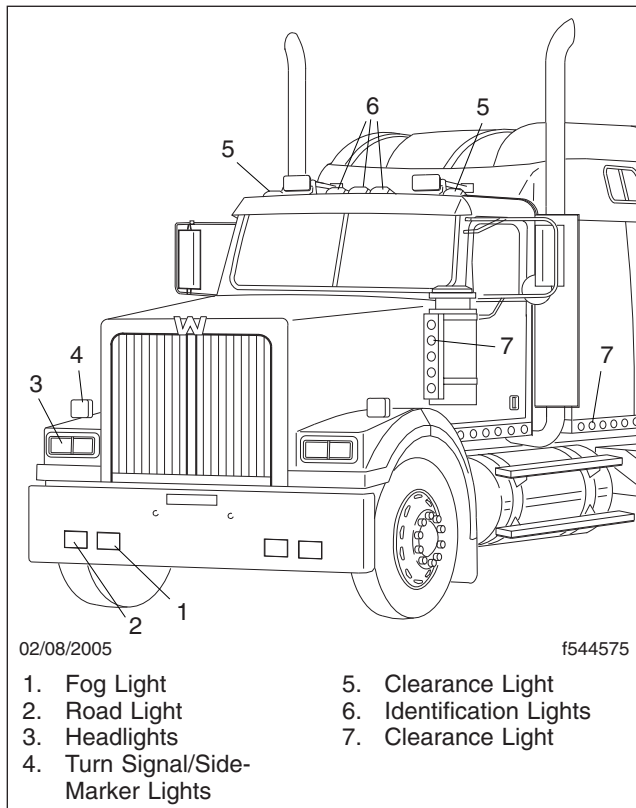

Fig. 23.9, Exterior Lights (4700 models)
- 11. Check the operation of all exterior lights. See Fig. 23.8 or Fig. 23.9.